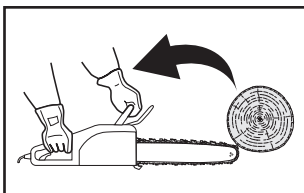

Fig. 21
In some cases, contact with the tip of the guide bar (9) may cause a lightning-fast reverse reaction, kicking the guide bar up and back toward the operator (Figs. 21, 22, 23).